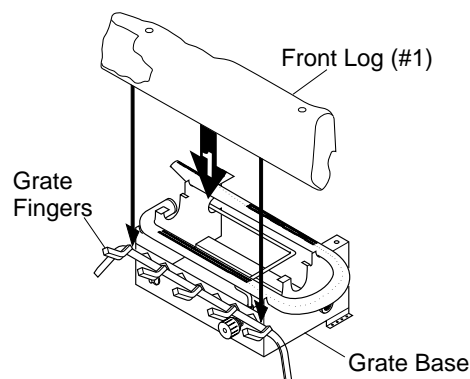

Figure 24 - Installing Front Log (#1)
1. Place the front log (#1) on the grate fingers. Make sure the front log rests firmly between the grate fingers and the grate base (see Figure 24).